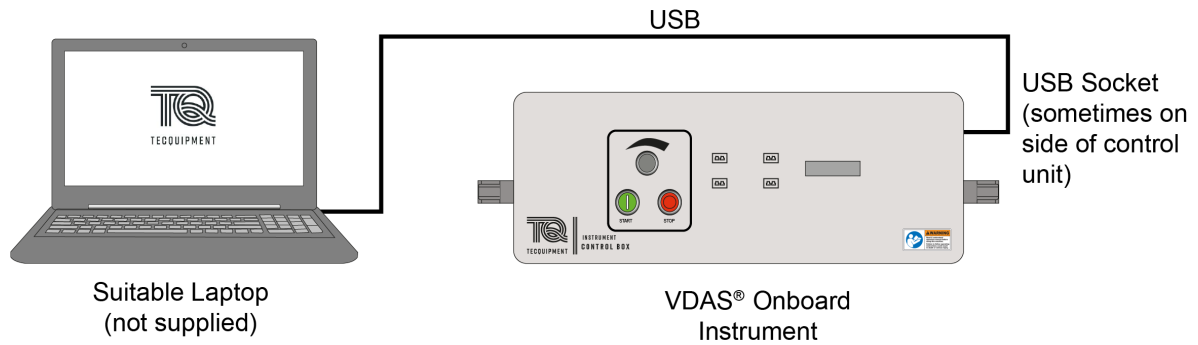

Figure 12 Typical System Connections for VDAS® Onboard
1. Figure 12 shows typical connections for VDAS® Onboard.